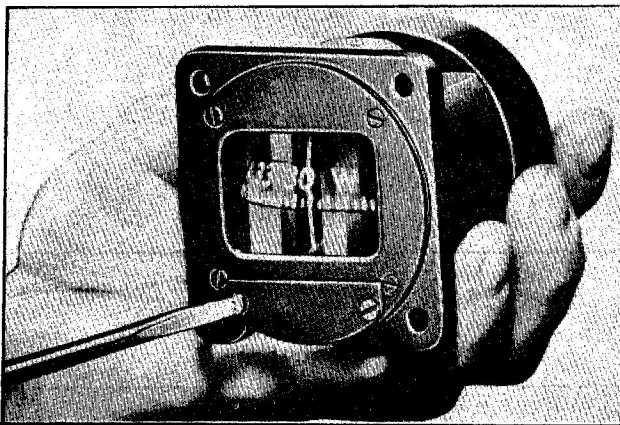

Figure 5 — Remove Cover Plate Screws
(1) Unscrew the two cover plate screws, taking out the left-hand screw first, and then remove cover plate. (See figure 5.)